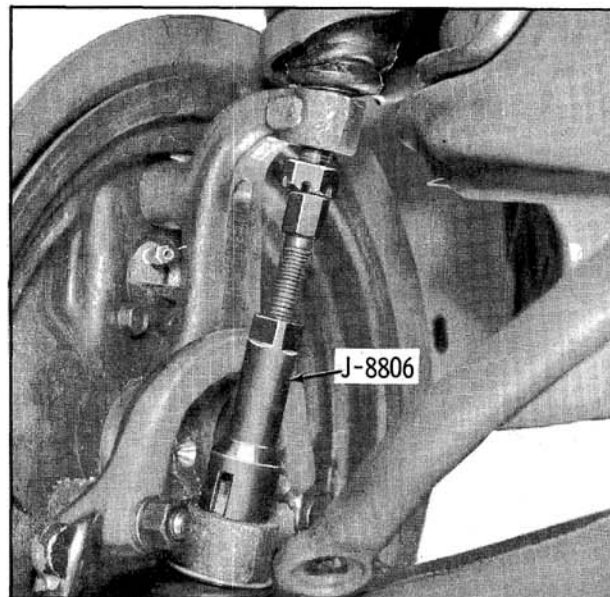

Fig. 9-12 Loosening Upper Ball Joint
- b. Loosen the upper ball joint nut and install Tool J-8806 as shown in Fig. 9-12.